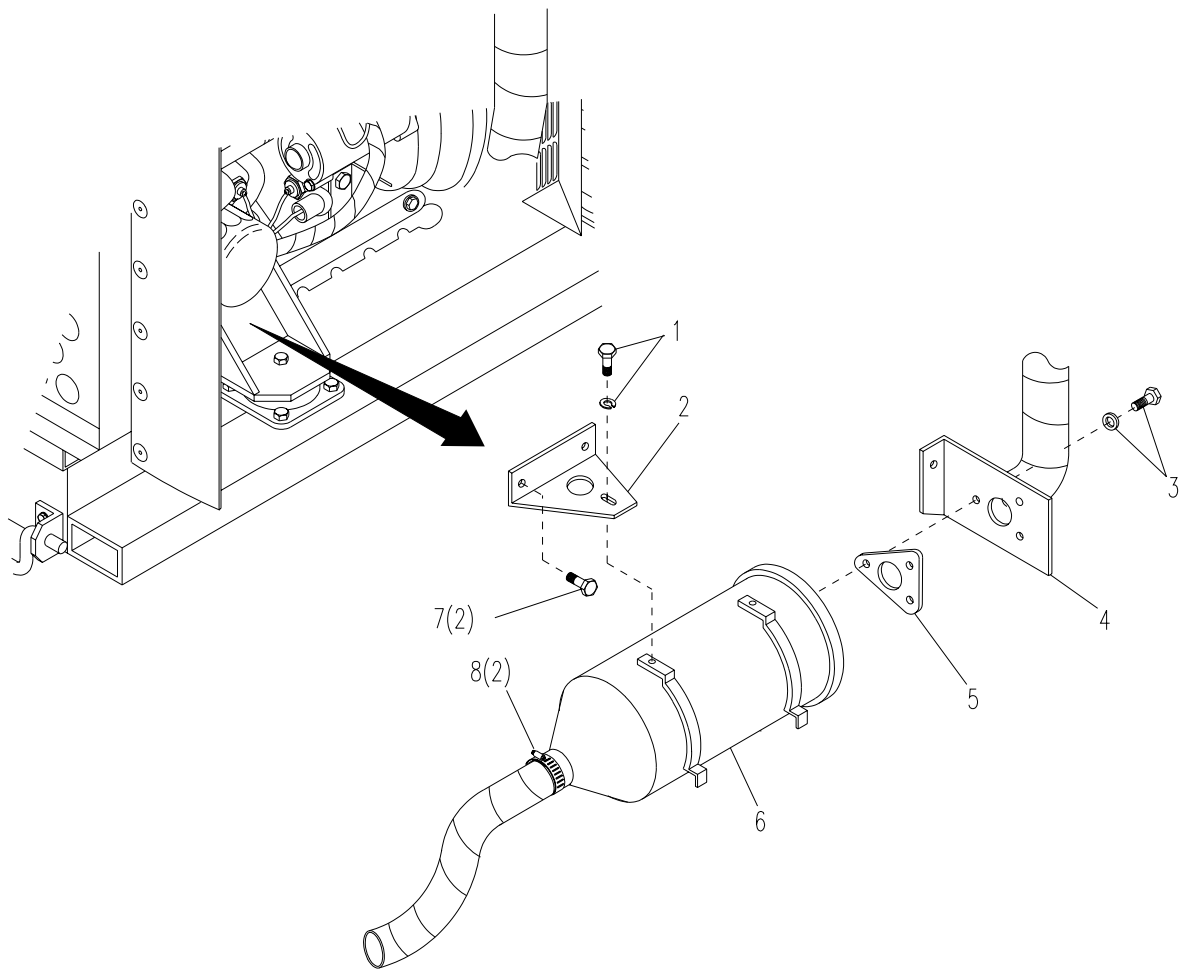

Figure 4-28. Muffler (JTACS and WIN-T)
- a. Remove one bolt and lock washer (1) securing muffler (6) to muffler bracket (2), remove three bolts and washers (3, Figure 4-28) securing muffler (6) to muffler brace (4). Remove muffler (6) and muffler gasket (5).
- a. Remove one bolt and lock washers (1) and two bolts (7) securing muffler (6) to muffler bracket (2), remove three bolts and washers (3, Figure 4-28) securing muffler (6) to muffler brace (4). Remove muffler (6) and muffler gasket (5).
- b. Remove hose clamp loops (8) and exhaust pipe insulating wrap from muffler exhaust pipe. Discard muffler and gasket.
- c. Install new muffler (6) and muffler gasket (5) to muffler brace (4) and secure with three bolts and washers (3).
- d. Install exhaust pipe insulating wrap on muffler (6) and secure with loop clamps (8) on both ends.
- e. Secure muffler (6) to muffler bracket (2) with one bolt and lock washers (1) and two bolts (7).